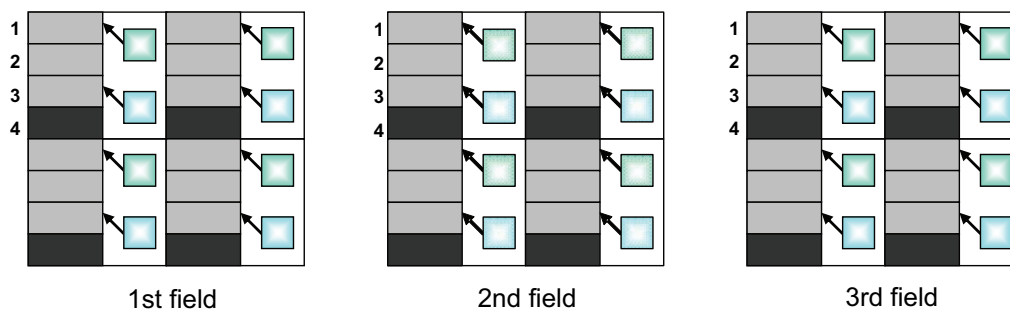

Figure 57: Format_7 Mode_2: 4-phase vertical shift register precharging (non-interlaced, field)
- Figure 57: Format_7 Mode_2: 4-phase vertical shift register pre-charging \(non-interlaced, field\) on page 106